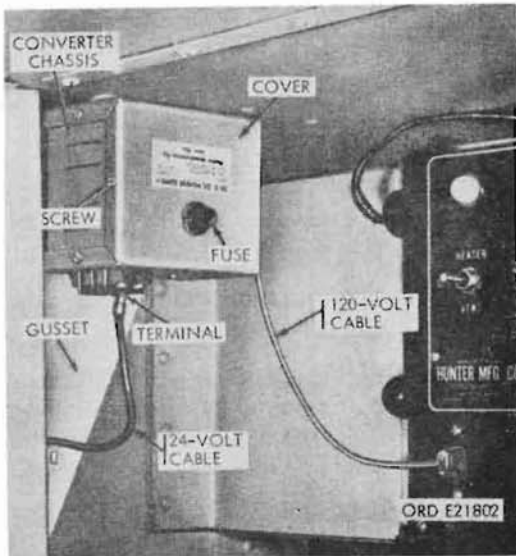

Figure 367. Fuel pump converter
- (1) Close heater shutoff valve.
- (2) Remove screw attaching 24-volt cable (fig. 367) to terminal on converter and remove cable.
- (3) Disconnect fuel lines from fuel pump inlet and outlet.
- (4) Remove two screws holding fuel pump integral bracket to corner post and remove fuel pump.